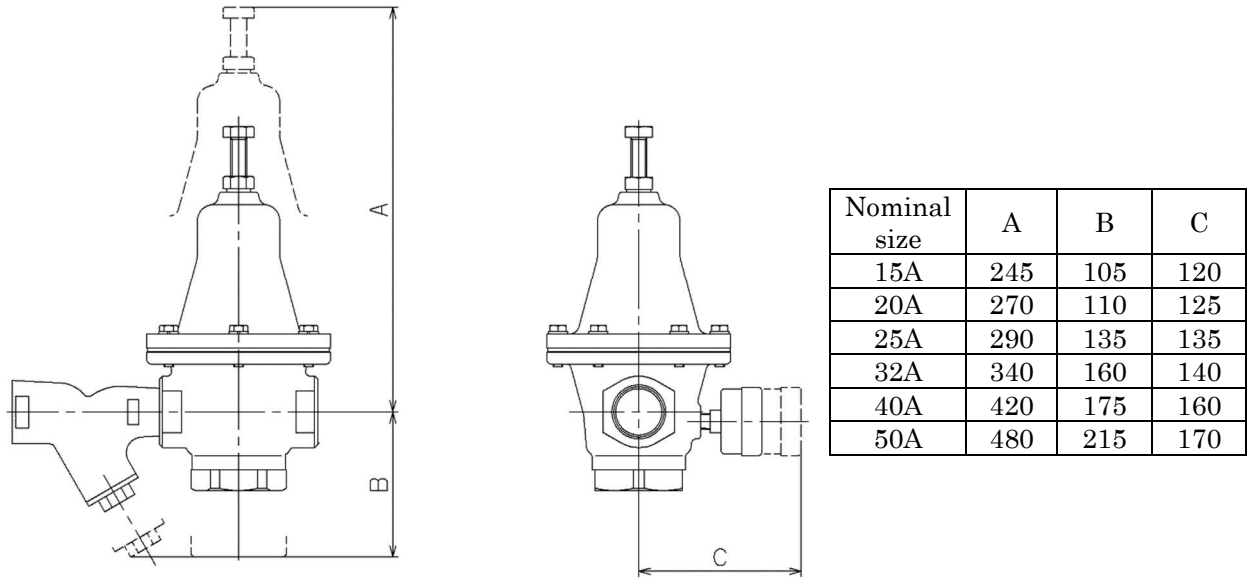

Fig.1
- (5) Install a pressure gauge at the inlet side of the valve.
- (6) When installing quick open and close valves, such as a solenoid valve, secure at least 3 m from the valve.
- (7) When pressure reducing in two stages, secure at least 3 m between the valves.
- (8) Install the valve in proper direction of the fluid flow.
- (9) Do not apply excessive load, torque or vibration to the valve.
- (10) Secure the necessary maintenance space at the installation site of the pressure reducing valve. (See Fig.1)
- (11) The set pressure of safety relief valve must be higher than the set pressure of pressure reducing valve.
- (12) Do not freeze pressure reducing valve.
- (13) Do not allow pipe adhesive materials to leak into pressure reducing valve.
(14) Replace the factory-installed plug at the pressure gauge joint with the pressure gauge enclosed in the package.
(15) When using a product with a pressure gauge outdoors, provide a canopy or other protection to prevent rainwater from directly hitting the pressure gauge.